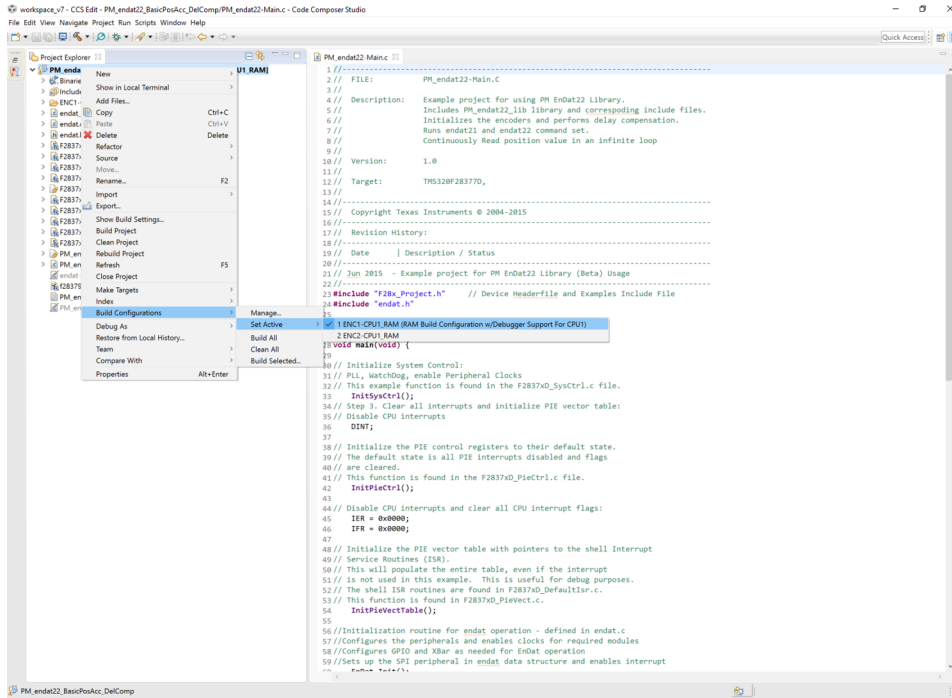

Figure 8. Selecting F2837x_RAM Configuration
- The project can be configured to create code and run in either Flash or RAM. Either of the two can be selected, however, RAM configuration is used most of the time for lab experiments and Flash configuration for production. As shown in Figure 8, right-click on an individual project and select *Active Build Configuration* → *CPU1_RAM* configuration.